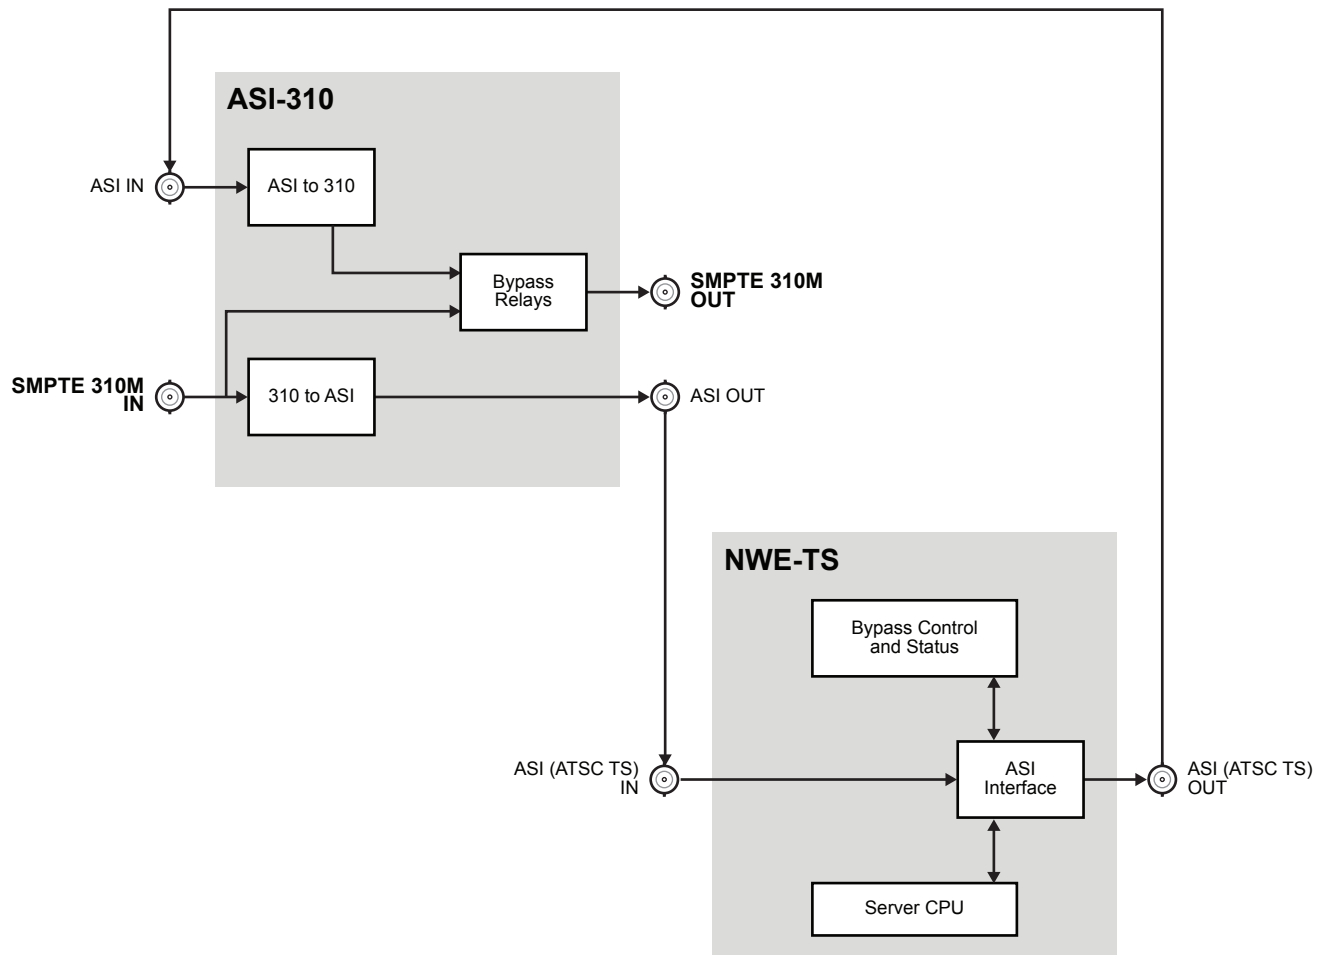

Figure 8 NWE-TS and ASI-310 Setup — SMPTE 310M Conversion
**Figure 8** provides a system diagram that illustrates one way to set up the SMPTE 310M conversion using an NWE-TS and a Ross Video ASI-310 converter.